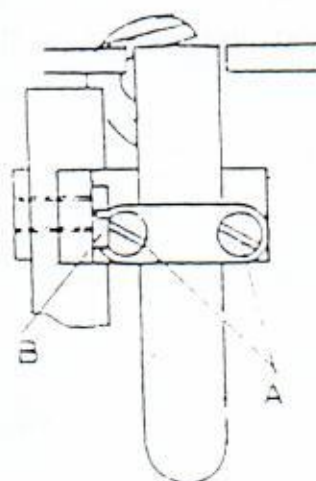
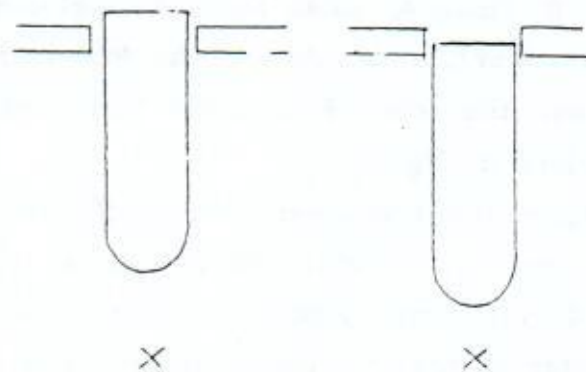

Fig. 35
Fig. 37
1. Loosen the screw B of lower front knife holders in Fig 35.
3. The lower front knife should keep horizontal with auxiliary plate. In Fig. 37 shows the bad condition between lower front knives and auxiliary plate, it causes bad cutting and fabric jam. For the adjustment of lower front knives, loosen the screw A in Fig 35 and set the horizontal position.
4. Tighten the lower front knife screw A and screws B of lower front knife holders after set the standard position in Fig 35.